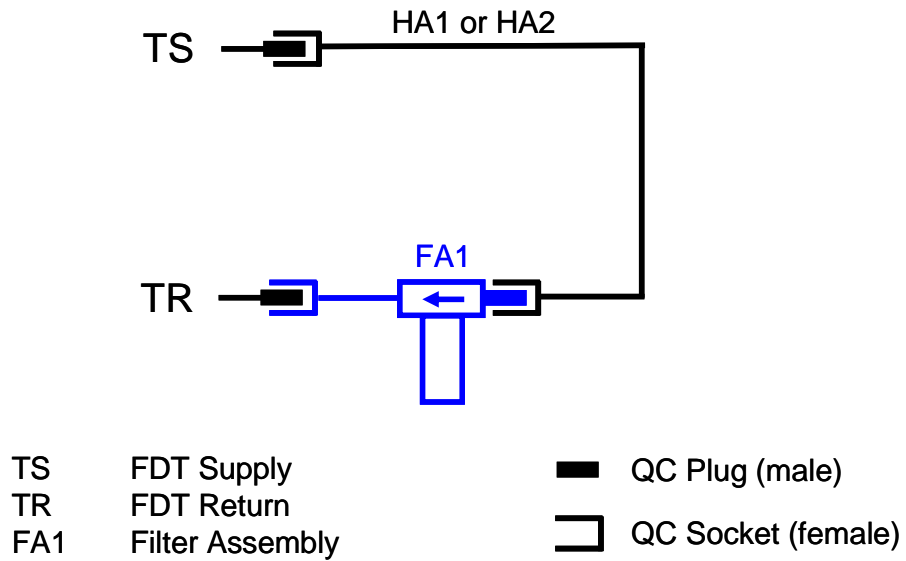

Figure 9: Schematic of filter assembly connected to FDT
17. Figure 9 is a schematic that shows how the filter assembly (FA1) can be attached to the tool source (TS) and tool return (TR) connections on the FDT using hose assemblies HA1 or HA2.